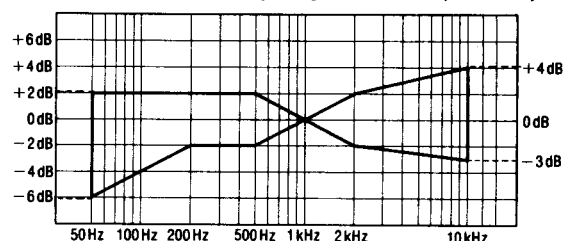

Fig. 9
5. Playback the recorded signal and assure that it is within the range shown in Fig. 9 in comparison to the reference frequency (1kHz).